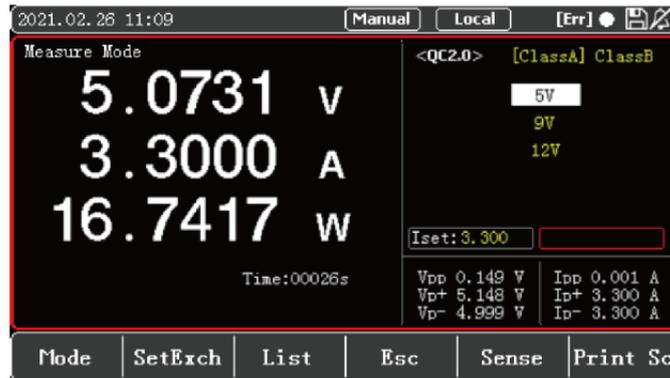

Figure 5-1-1 <QC2.0> Setting and Display Interface
If the handshake is successful, the status will be displayed as [OK], as shown in the upper right corner of Figure 5-1-1, otherwise it will be displayed as [Err].
3. Select the box on the right through [Setting Switch] to set the parameters of the quick charge test. Press the  key to enter the Class selection area, use the knob and left/right keys to select Class A (5V/9V/12V voltage can be set) or Class B (5V/9V/12V/20V voltage can be set). Then press  key to enter the voltage setting area, use the knob and up/down keys to select the voltage to be triggered, and press the enter key  to trigger. If the trigger is successful, the voltage display value will change accordingly, and then press the ON button on the panel to load. If the load is successful, the ON button indicator light will be green, the correct voltage and load value will be displayed on the screen, and the OK symbol will be displayed at the upper right of the screen, as shown in Figure 5-1-1, which is the interface after the successful 5V/3.300A load. If Err appears on the upper right of the screen during the loading process, users need to check whether the loaded value and the test parameter value exceed the specification range of the loaded object and need to be reset.